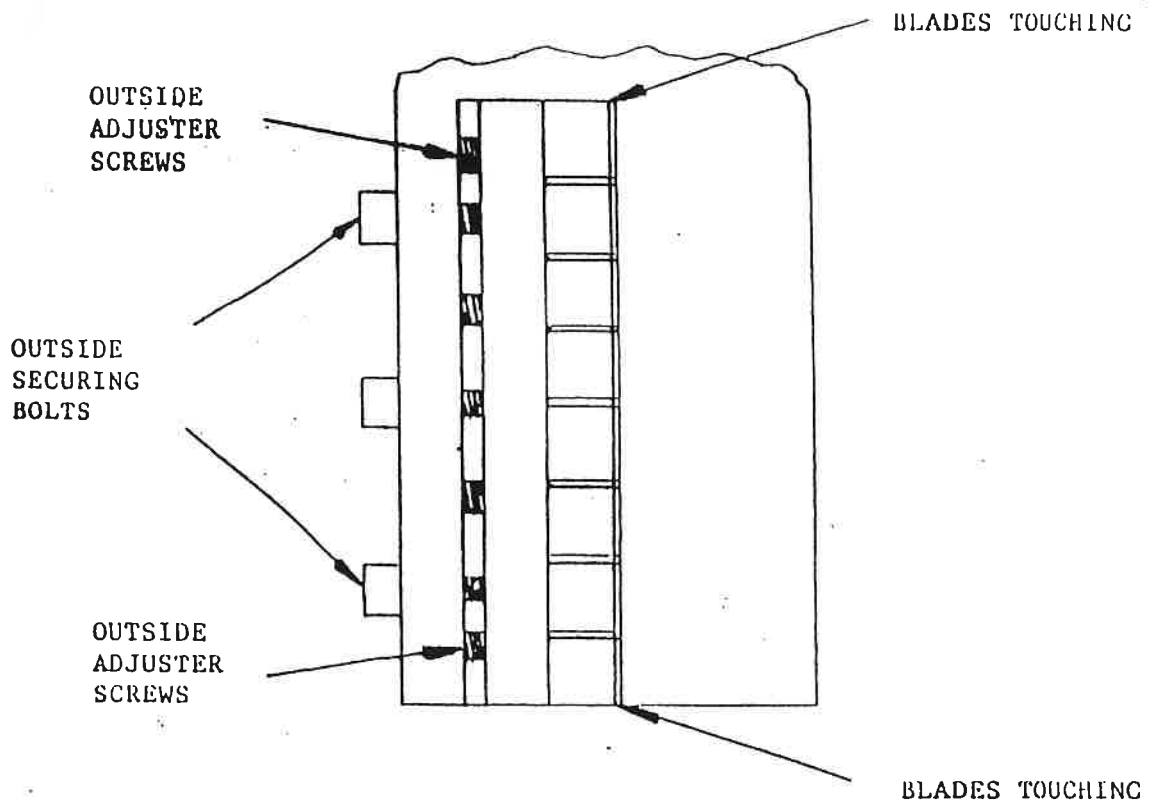

FIG. 7
- 4 Position blade by screwing in the two outside adjusting screws until the blades touch at each end (see fig. 7). Do not over tighten.
Hand tighten the two outside securing bolts (see fig. 7) and then hand tighten all the inner adjuster screws on to the back up blade. Now firmly tighten all the securing bolts with allen key and tube.
The blades should be just together over their full length when looked down upon in fig. 7. Fine adjust may be necessary to achieve this. It is most important that the blades do not rub and that all securing bolts are very tight after the operation is completed.